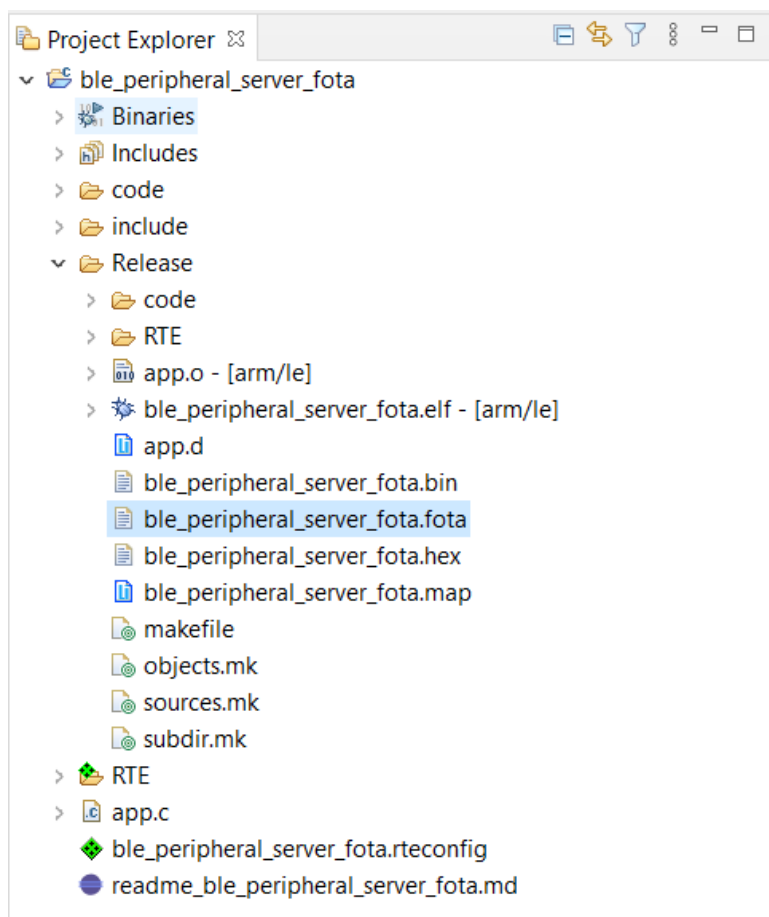

Figure 7. .fota Image in Release Folder
4. Build the *ble_peripheral_server_fota* project. After a successful build, the *ble_peripheral_server_fota.fota* image is generated under the *Release* folder, as seen in the figure ".fota Image in Release Folder" (Figure 7):